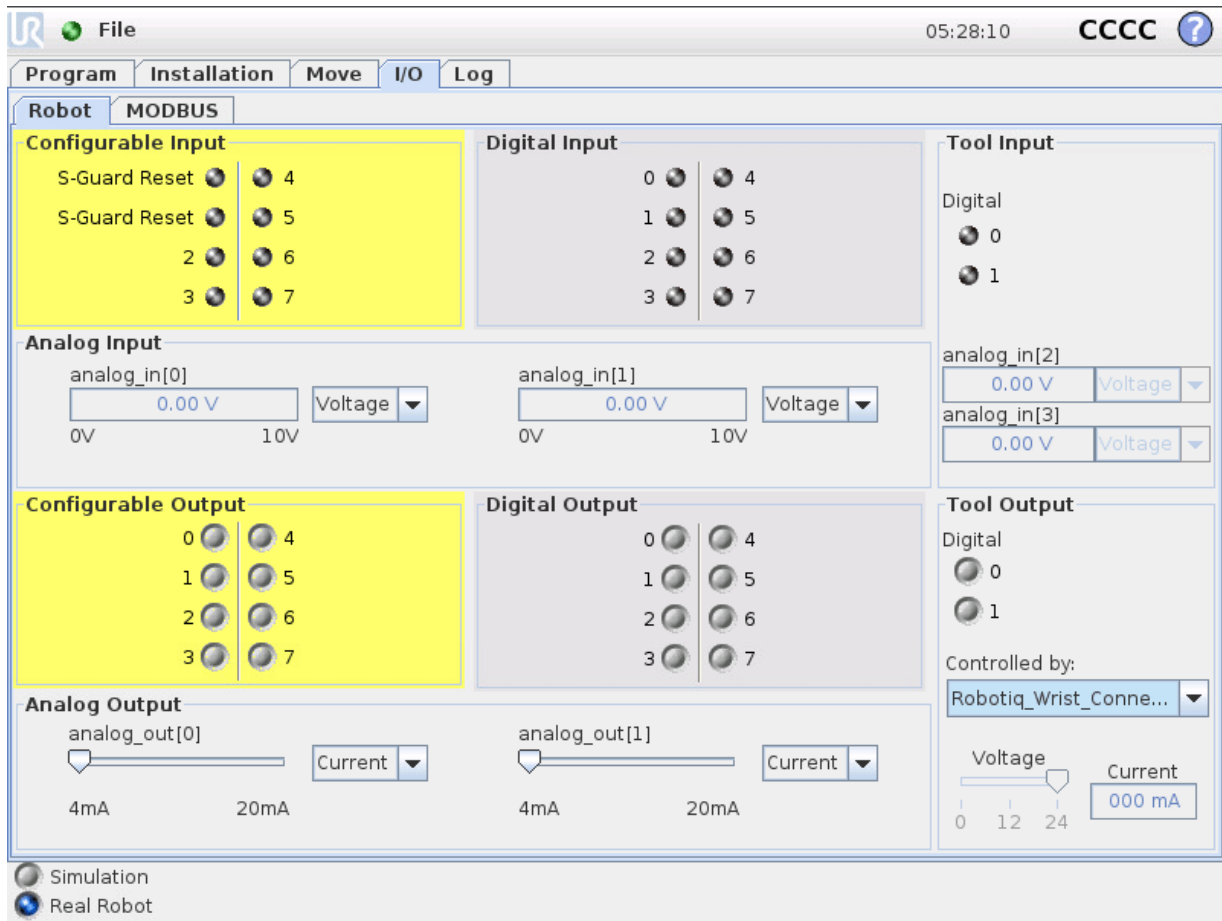

Figure 3.4.1.1 : Changing the Voltage at the Tool Flange
5. In the **I/O** Tab, go in the **Tool Output** section. In the Controlled by dropdown menu, select to **Robotiq\_Wrist\_Connection**. The voltage will automatically change to 24V, as shown in Figure 3.4.1.1.
8. Delete any Gripper URCaps on the robot. Install the URCaps on the UR robot. When the gripper will be connected to robot, the gripper firmware can be undapted if needed. In the **I/O** Tab, go in the **Tool Output** section. In the Controlled by dropdown menu, select to **Robotiq\_Wrist\_Connection**. The voltage will automatically change to 24V, as shown in Figure 3.4.1.1.